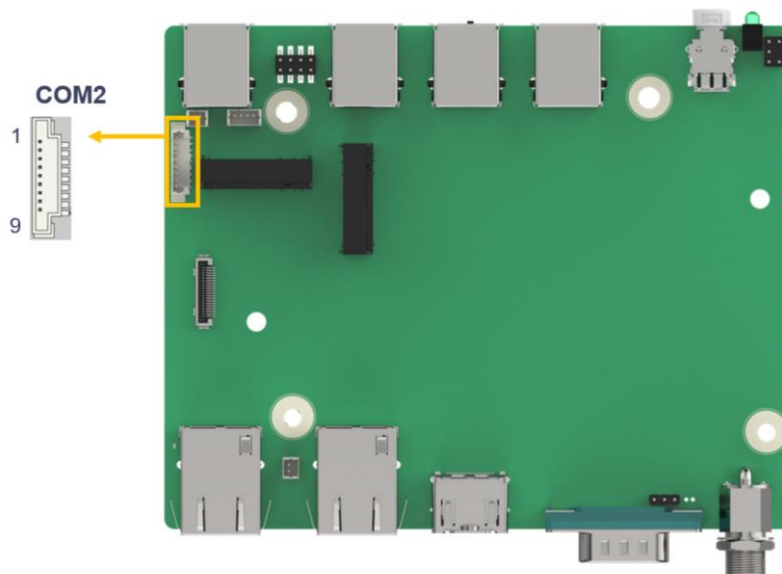

Figure 4-9: RS-232 Serial Port Connector Location
- CN Location:** See Figure 4-9